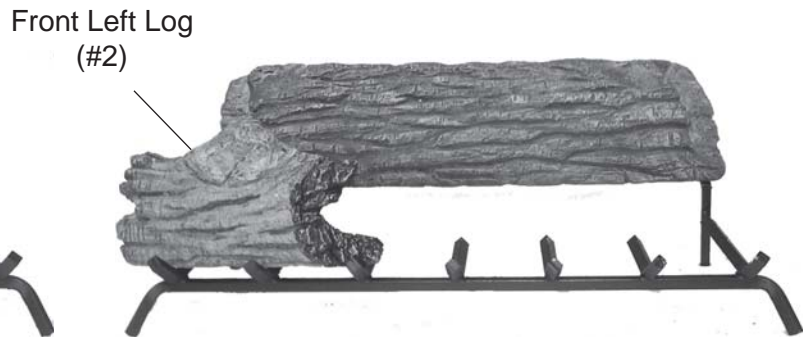

Figure 36 - Placing Front Left Log (#2)
3. Place front left log #2 in front of the plate and to the left. *See Figure 36.*